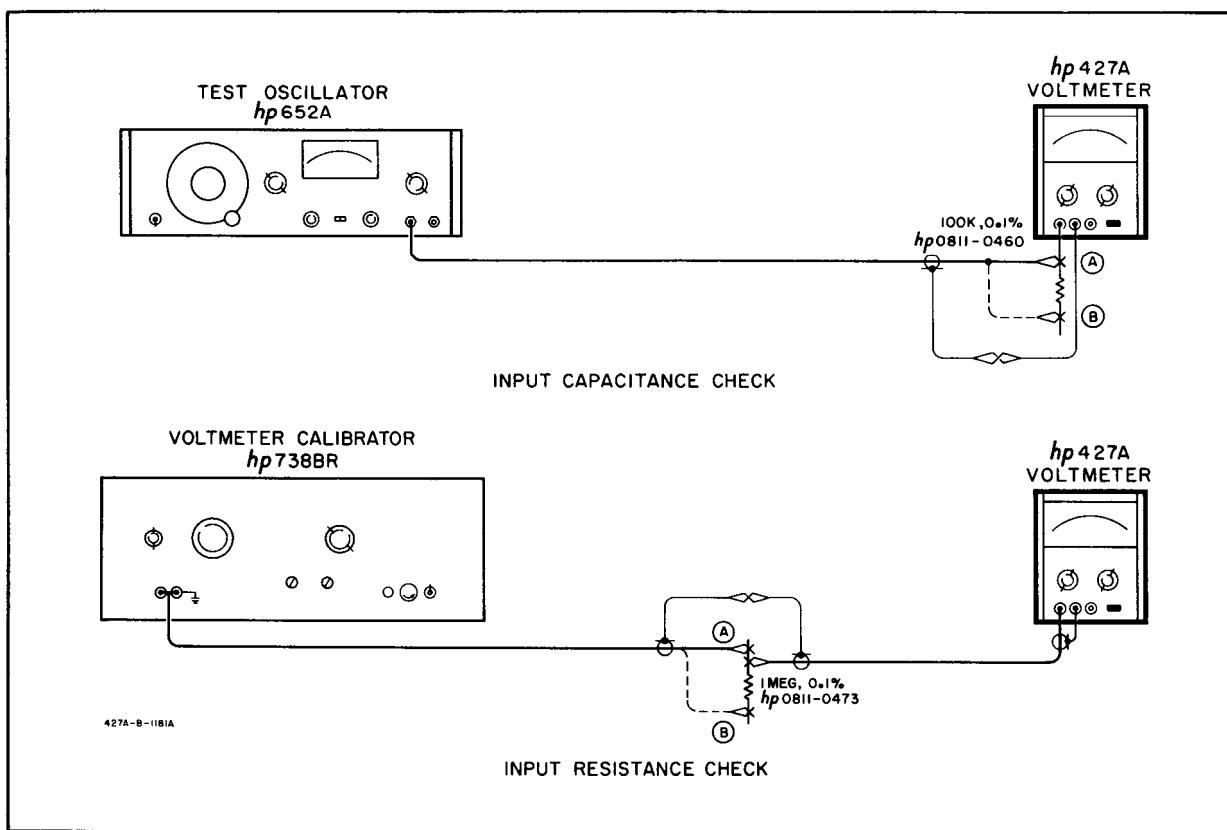

Figure 5-5. Input Impedance Check
- 5-22. Figure 5-5 shows the setup for the input resistance check. A $1 M\Omega$ resistor is connected in series with the input, and the voltage drop across the input resistance will be:
- a. Connect the Model 427A and the voltmeter calibrator to position A illustrated in Figure 5-5. Set the Model 427A FUNCTION to +DCV and RANGE to 1 V.
- c. Connect the voltmeter calibrator to position B shown in Figure 5-5.
- a. Connect oscillator and Model 427A to position A of the input capacitance check (Figure 5-5), and set the Model 427A FUNCTION to ACV and RANGE to 1 V.